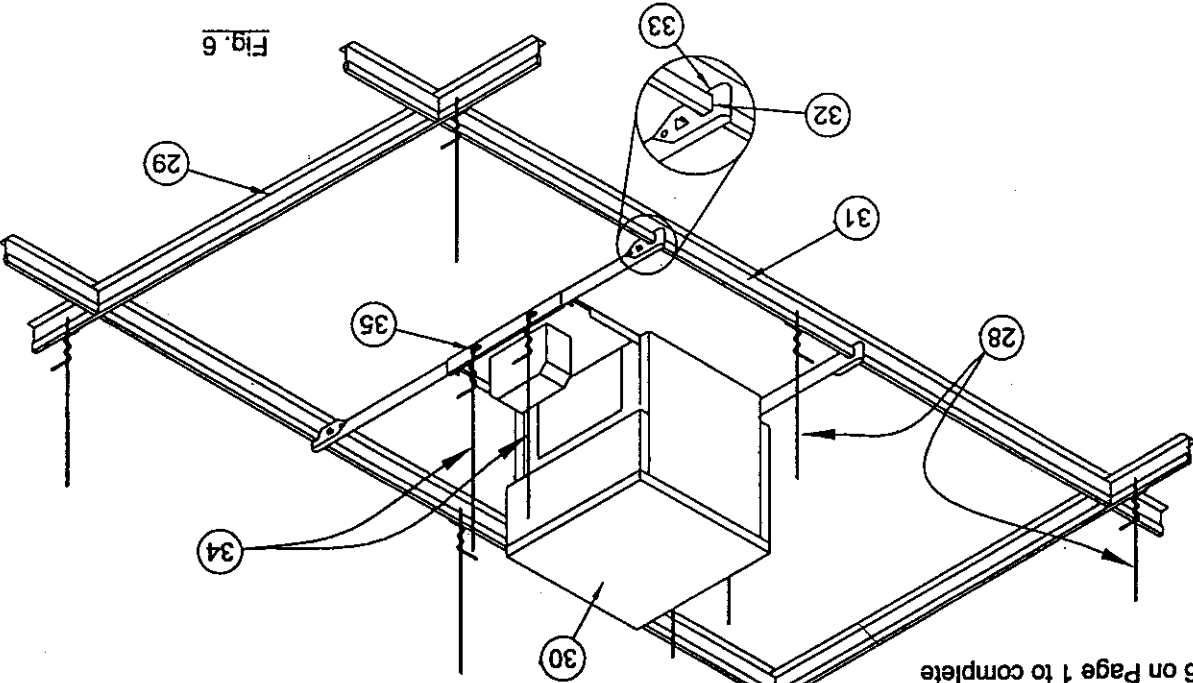
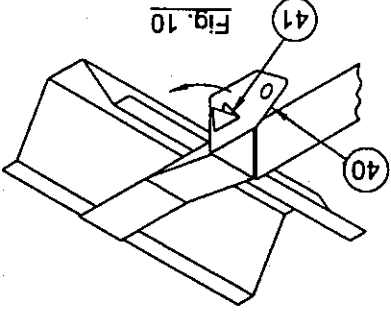

Fig. 6
Fig. 10
3. Once all Brackets are in place bend Hanger Bar End (40) around to secure Brackets to the Channels as shown in Figure 10. **NOTE:** Nailier Tab (41) should lodge under edge of Furring Channel.
4. Tighten bar hanger Locking Screws (5) in ends of Plaster Frame (2) to prevent lateral movement of the Frame.
5. Install two No. 12 SWG Galv. Steel Hanger Wires (34) secured to each end of Luminaire (30) plaster frame at Lanced Openings (35) in hanger bar support channels. Steel Hanger Wires to be installed vertically and secured to structural members of floor or roof assembly. (See Fig. 6)